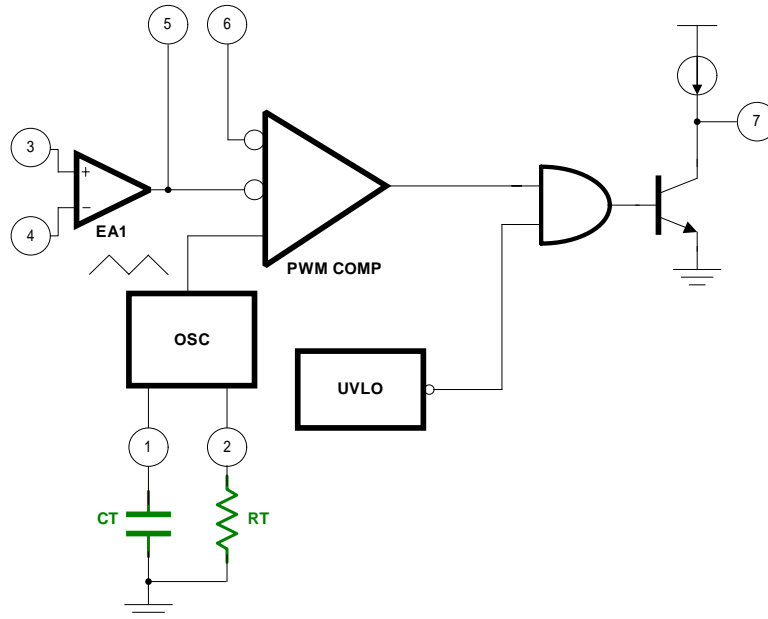

Figure 20 Oscillator/PWM Comparator with Frequency RC circuits
The oscillator frequency can be decided from 20KHz to 500KHz by the resistor (RT) and capacitor (CT) which are connected with pin1 and pin2 of **FP5452**, a sawtooth waveform would compare with feedback signal of the error amplifier and dead-time control voltage, the figure 20 is the relationship of oscillator, error amplifier and PWM comparator, and figure 21 is the waveforms of **FP5452**.